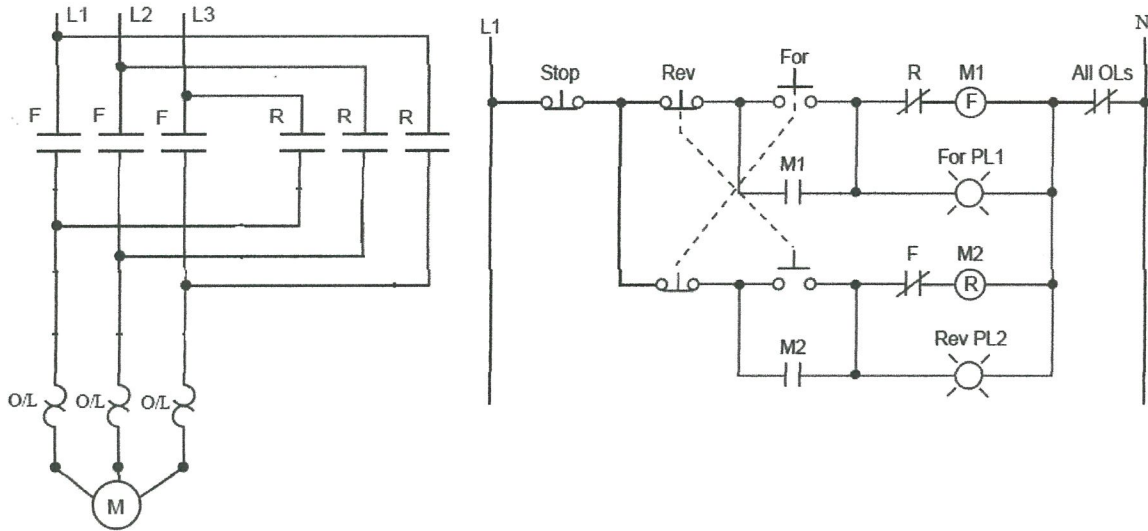

Figure Q3
**Q3** Figure Q3 shows the power circuit and the control circuit of a Forward-Reverse Direct-on-Line starting scheme. The electromechanical control circuit needs to be replaced with a PLC unit with essential accessories. To do that the following need to be performed: